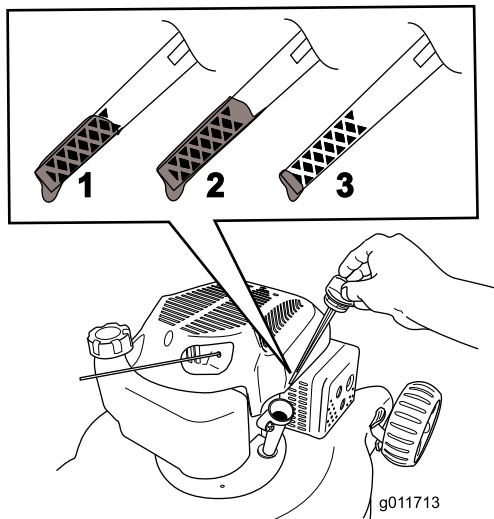

Figure 4
2. Remove the dipstick (Figure 4).
3. **Slowly** pour oil into the oil fill hole, wait 3 minutes, and check the oil level on the dipstick by wiping the dipstick clean and then inserting, **but not screwing in**, the oil fill cap into the hole (Figure 4).
**Note:** Fill the engine crankcase with oil until the dipstick indicates that the engine oil level is correct as shown in Figure 4. If you overfill the engine with oil, remove the excess oil as directed in Changing the Engine Oil.